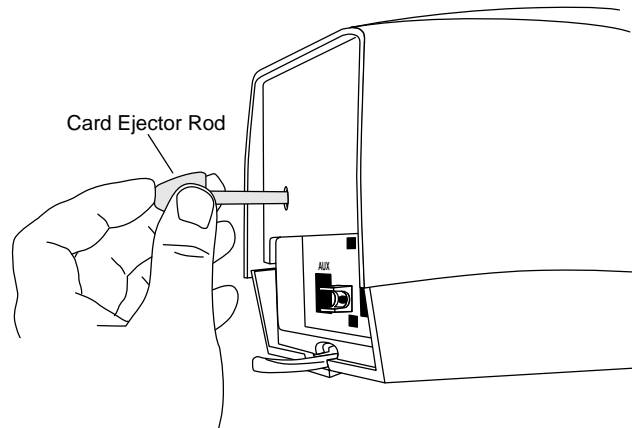

Figure 3-3. Card Removal
3. Insert the Rod into the Hole for Card Removal, as shown in Figure 3-3 and push the Rod until the card appears in the slot at the front of the unit.